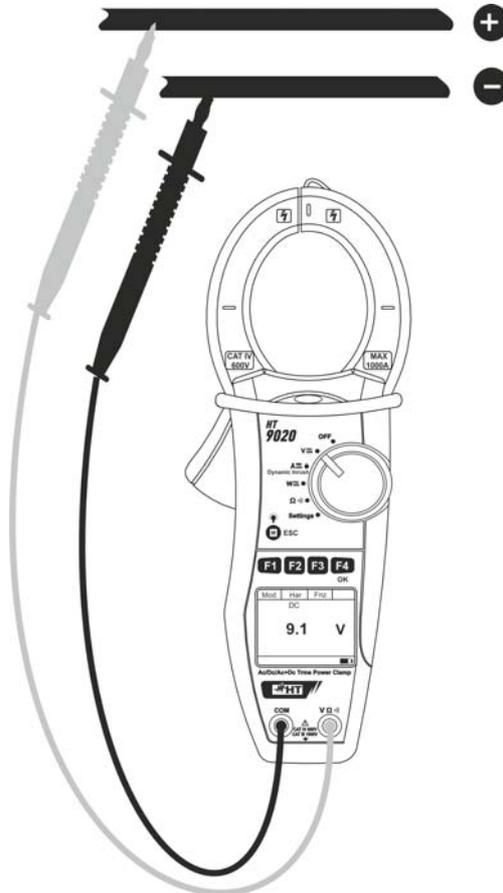

Fig. 5: DC Voltage measurement
4. Connect red cable to input lead **V Ω**) and black cable to input lead **COM** then position the leads at the desired points of the circuit under test (see Fig. 5)